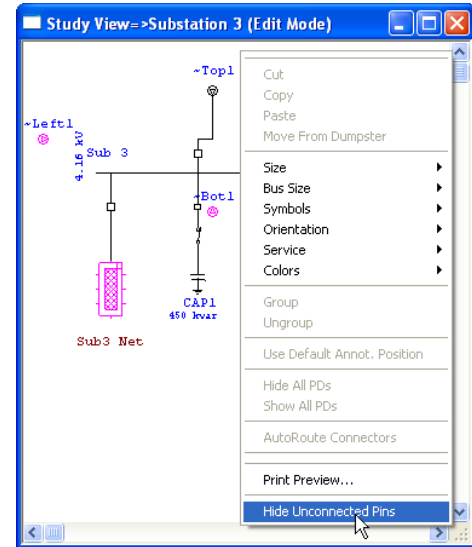

Fig. 11
11. Since we do not need the “~Left1, ~Rt1, and ~Bot1 pins, we may hide them. To do so, right-click anywhere the canvass and select the “Hide Unconnected Pins” command from the pop-up menu. See Fig. 11